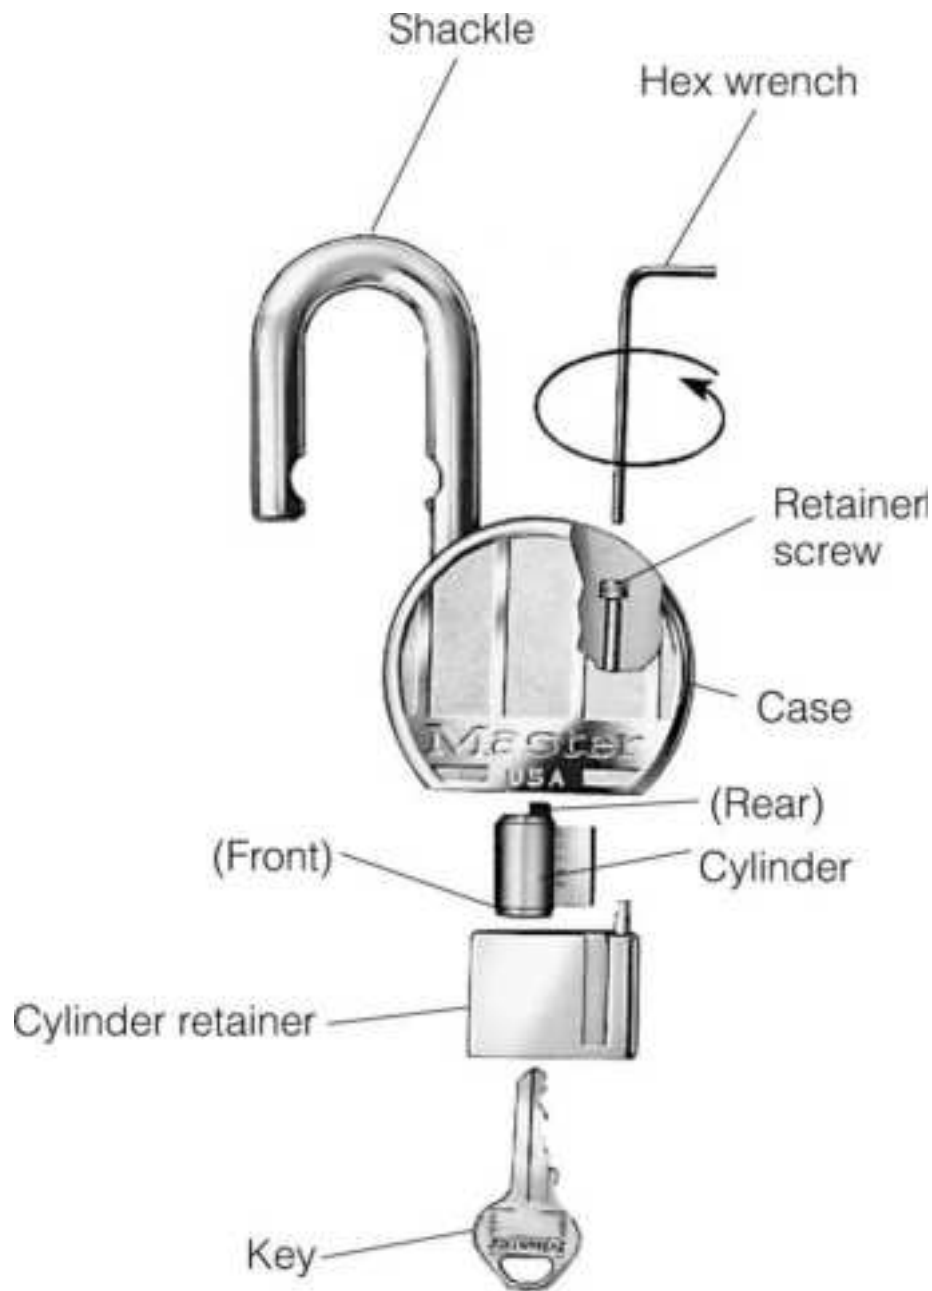

**Figure 12.14** Exploded view of a solid-body Master padlock. (*Master Lock Company*)
2. Slide the cylinder retainer out (Fig. 12.14 ). Turn the retainer upside down to remove the cylinder.